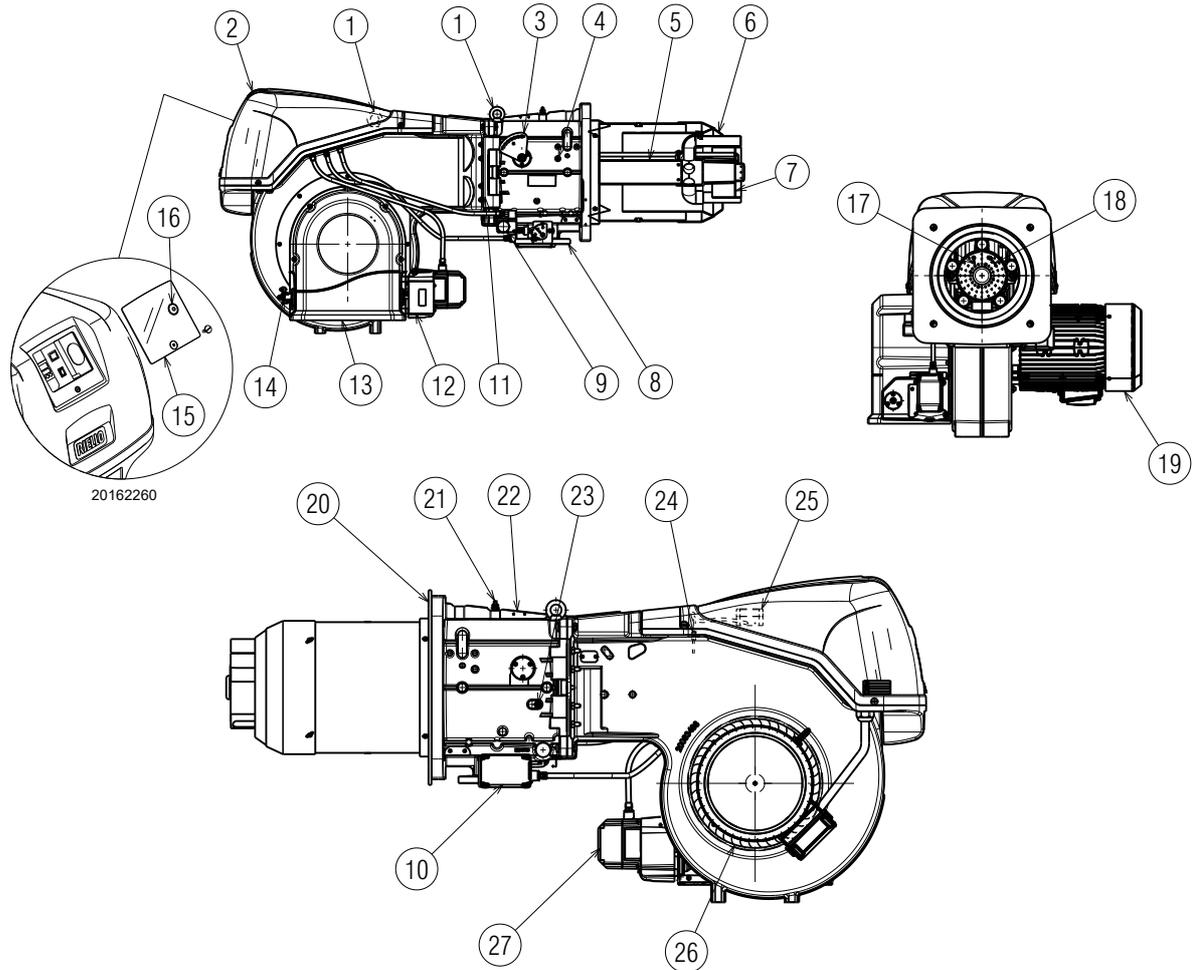

Fig. 4
(1) Reference conditions: Ambient temperature 20°C - Gas temperature 15°C - Barometric pressure 1013 mbar - Altitude 0 m a.s.l.
(2) Pressure at the test point 21)(Fig. 4 on page 11) with zero pressure in the combustion chamber and at maximum burner output.
(3) Sound pressure measured in manufacturer's combustion laboratory, with burner operating on test boiler and at maximum rated output. The sound power is measured with the "Free Field" method, as per EN 15036, and according to an "Accuracy: Category 3" measuring accuracy, as set out in EN ISO 3746.